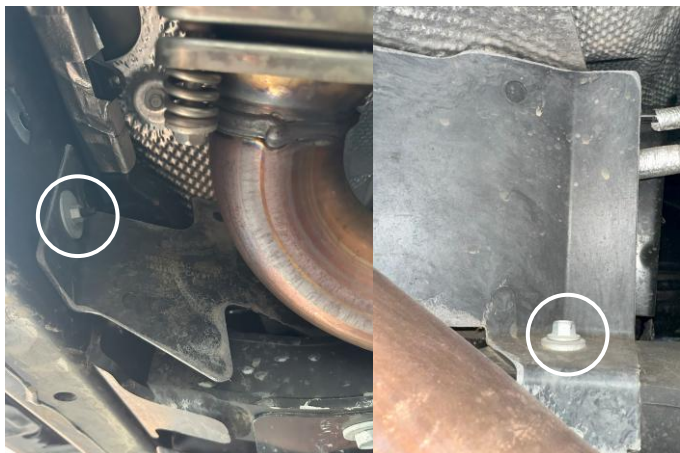

Figure 13: Fuel-line shield bolts (passenger side)
- Remove the plastic fuel-line shield on the passenger side (Figure 13). If you have already installed the Front Long Arm Upgrade Kit, this shield will not be present. It will not be reused once the upgrade kit is installed